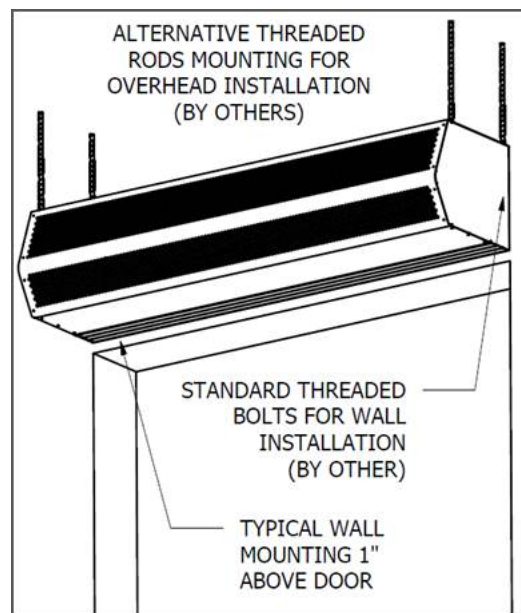

FIG. 1
3. Total of two (2) key-hole slots and six (6) pre-punched mounting holes are provided for your convenience. The 7/16" pre-punched holes (4) provided, (2) on each end for top/ceiling mounts. The 1/2" key-hole slot and 7/16" pre-punched hole (2) provided, (2) on each end for wall mounts. These holes must be utilized to secure the product to the wall or ceiling. If necessary, holes may be drilled inside the product to align with the stud spacing. All hardware is field provided by others.
4. Mount the product such that the discharge is 1" above the opening and all obstacles. (FIG. 1)
5. Use four (4) threaded rods for overhead installation or four (4) threaded bolts for wall installation. All hardware is field provided by others. (FIG. 1)